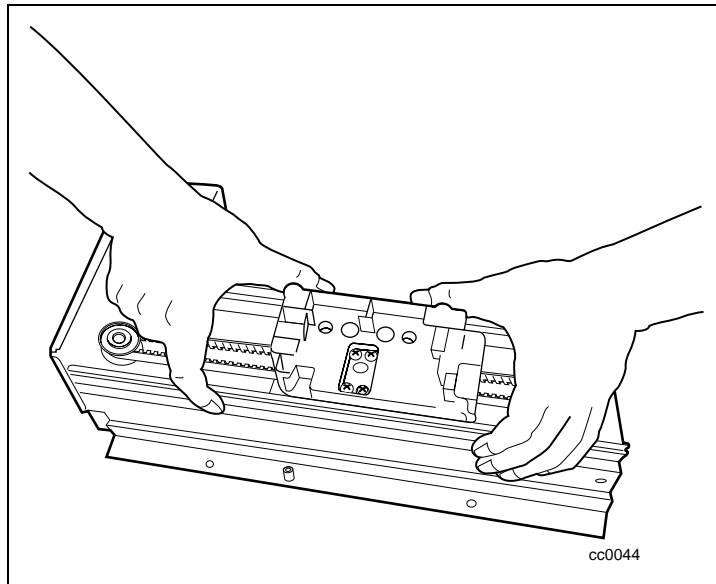

Figure C-25. Disengaging the wheels
3. Press against the elevator springs to disengage the wheels from the PTM extrusion channel (see Figure C-25).
1. Position the belt clamp midway along the PTM. Place the elevator car into the PTM extrusion, over the belt clamp, engaging both pairs of wheels into the PTM extrusion channel. The wheels of the elevator car should ride in the "V" grooves of the PTM extrusion channel. The cartridge opening on the elevator car should face away from the PTM motor housing assembly (see Figure C-25).